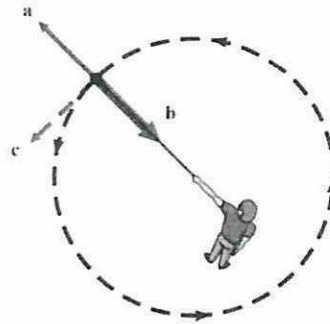

Figure Q2.1
- Q2 (a)** Johan represent UTHM in a hammer throw sport. Three forces 'a', 'b' and 'c' appear while he is rotating the hammer as illustrated in **Figure Q2.1**.